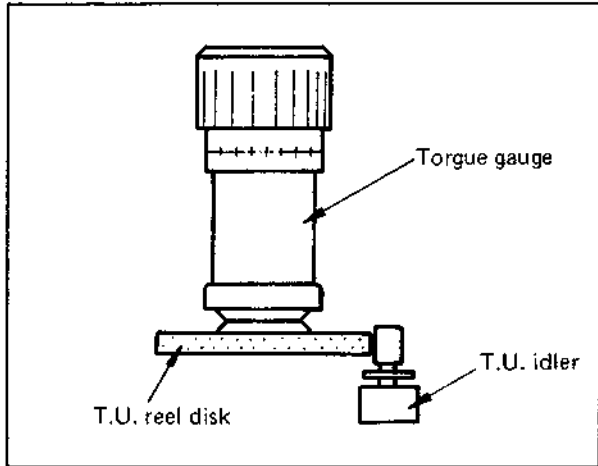

Fig. 4-11
2. Set the torque gauge on the take-up reel disk as shown in Fig. 4-11. Perform measurement while allowing the gauge to turn so that its scale and indicator rotate at the same speed.